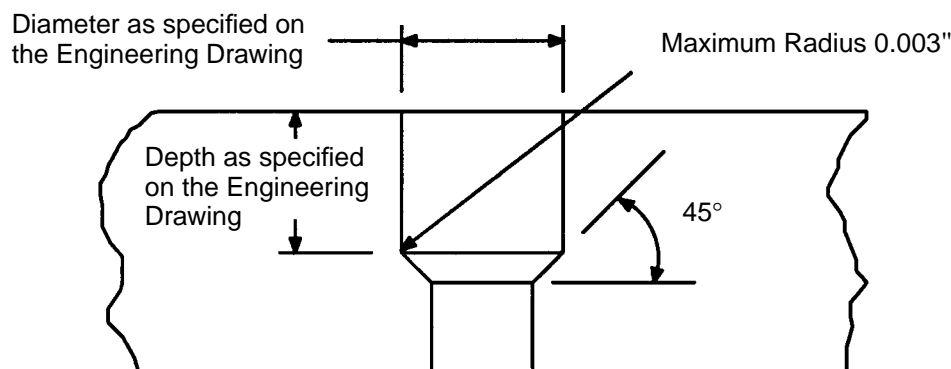

Figure 5 - Hole Preparation - General
| Figure 5 - Hole Preparation - General..... | 7 |
- 5.2.1 Refer to the engineering drawing for the location, angle, diameter and depth of insert mounting holes. Drill and ream holes according to PPS 1.09. Ream insert mounting holes to final size using a reamer ground to 45° seat angle with a 0.003" maximum fillet radius (see Figure 5). Ream holes for oversize (O/S) inserts 0.010" larger than the standard hole tolerance and to the same depth as the standard insert hole.